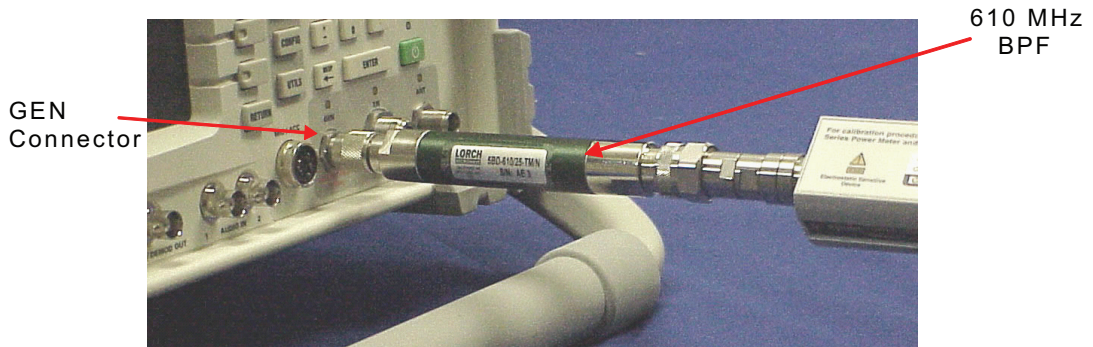

Fig. 4-5 PA Detector Calibration Setup
3.	Configure equipment. Refer to Fig. 4-5 as needed.